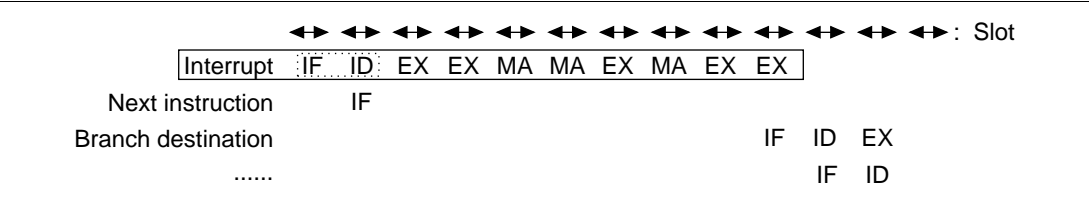

Figure 7.96 Address Error Exception Processing Pipeline
Address Error Exception Processing: The address error is received during the ID stage of the instruction and everything after the ID stage is replaced by the address error exception processing sequence. The pipeline has ten stages: IF, ID, EX, EX, MA, MA, EX, MA, EX, and EX (figure 7.96). Address error exception processing is not a delayed branch. In address error exception processing, an overrun fetch (IF) occurs. In branch destination instructions, the IF starts from the slot that has the final EX in the address error exception processing.